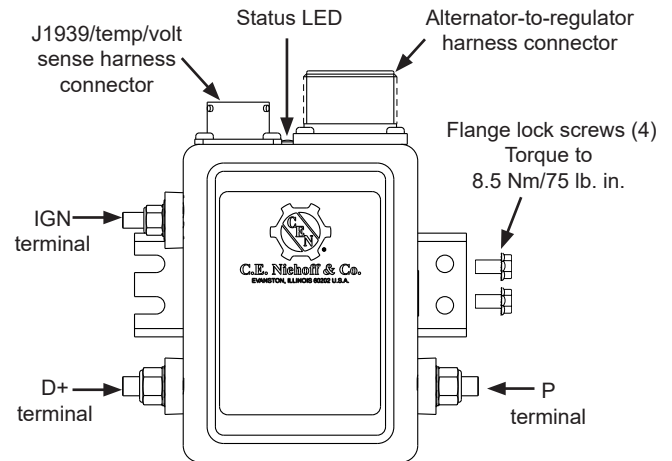

Figure 9: Smart Series Regulator Connections
5. If using a J1939/temperature-voltage sense harness, plug J1939 harness into J1939 receptacle on regulator. See Figure 9 for receptacle location. Refer to installation instructions included with harness for more information. Harness sold separately².